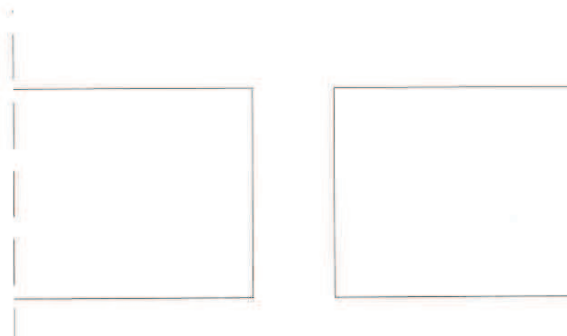

Fig. 3.
4.3.3. Application to straight linear joints with parallel surfaces of elements sealed edges in accordance with Fig. 3.